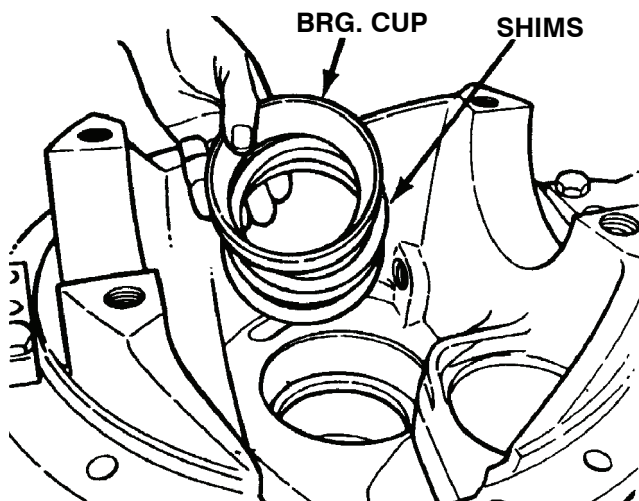

Figure 49.
- (1) Place carrier in a press with carrier legs facing upward. Position original pinion inner bearing cup shims into bearing bore of carrier and position cup over bore. Refer to Figure 49.